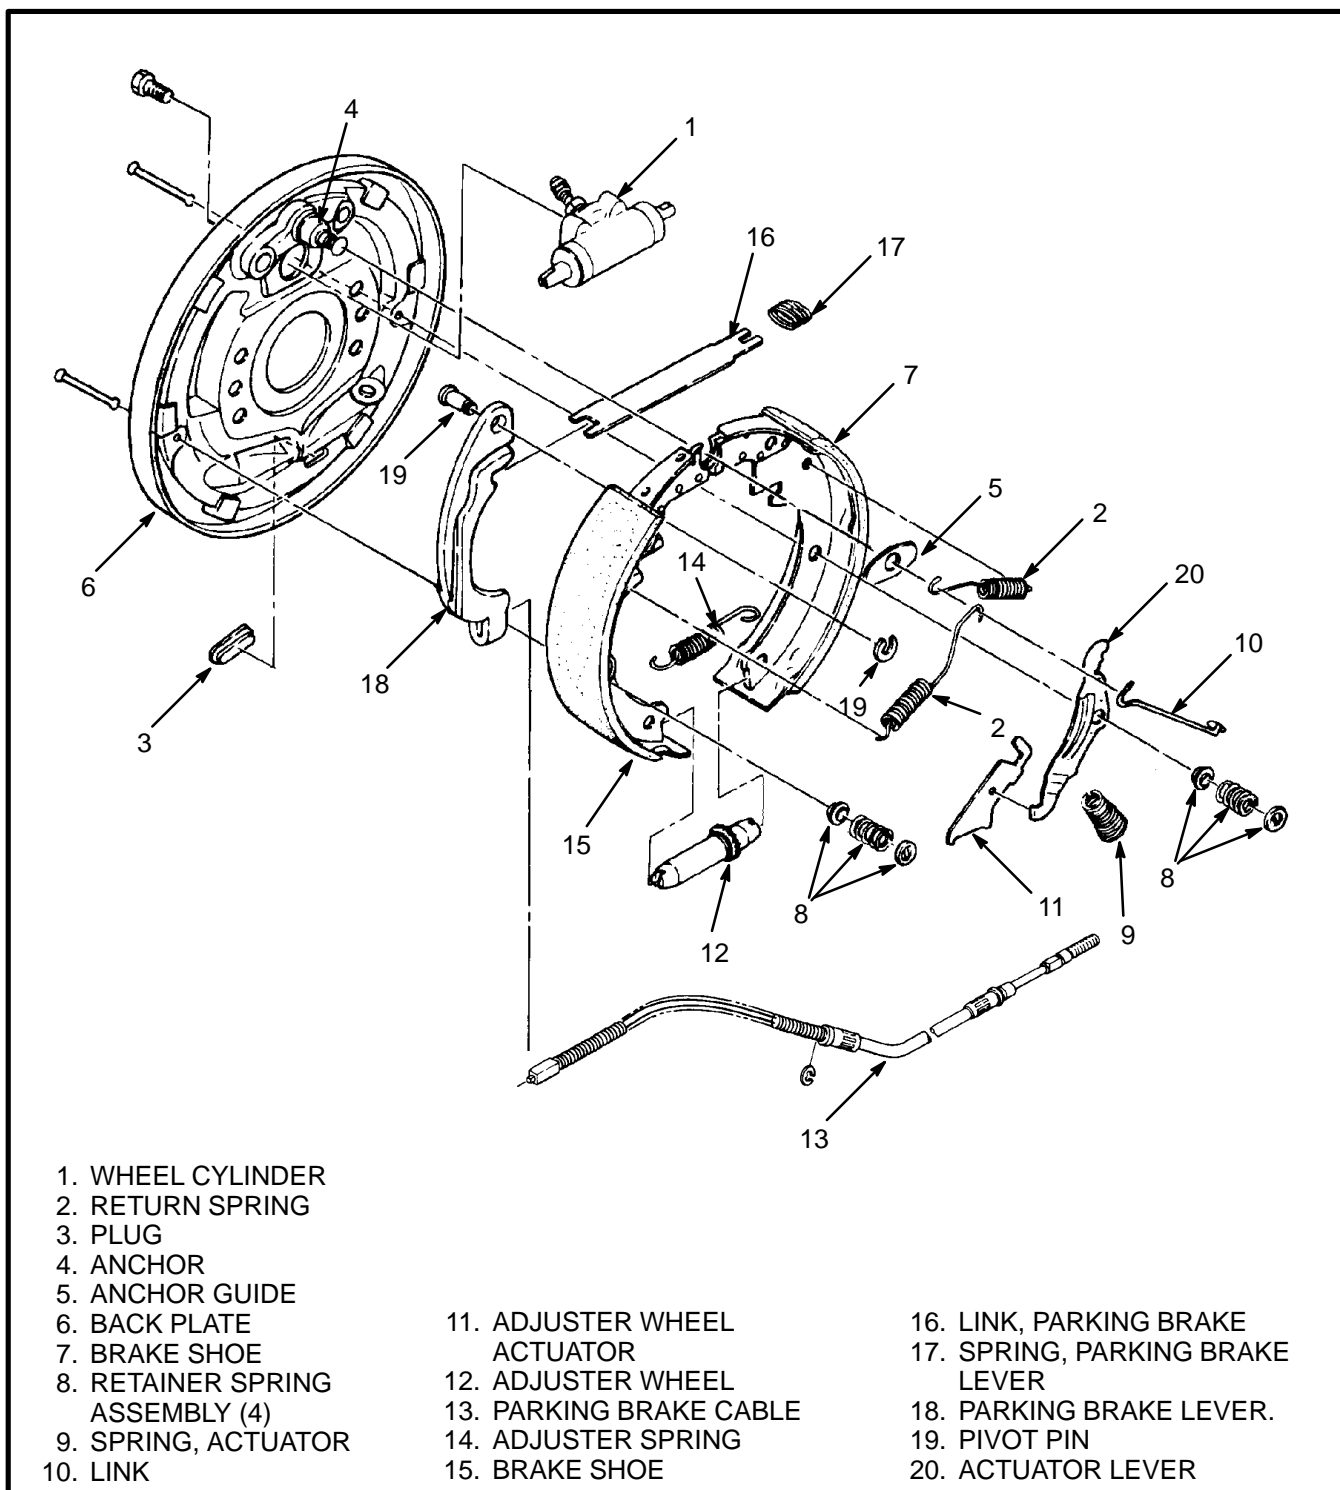
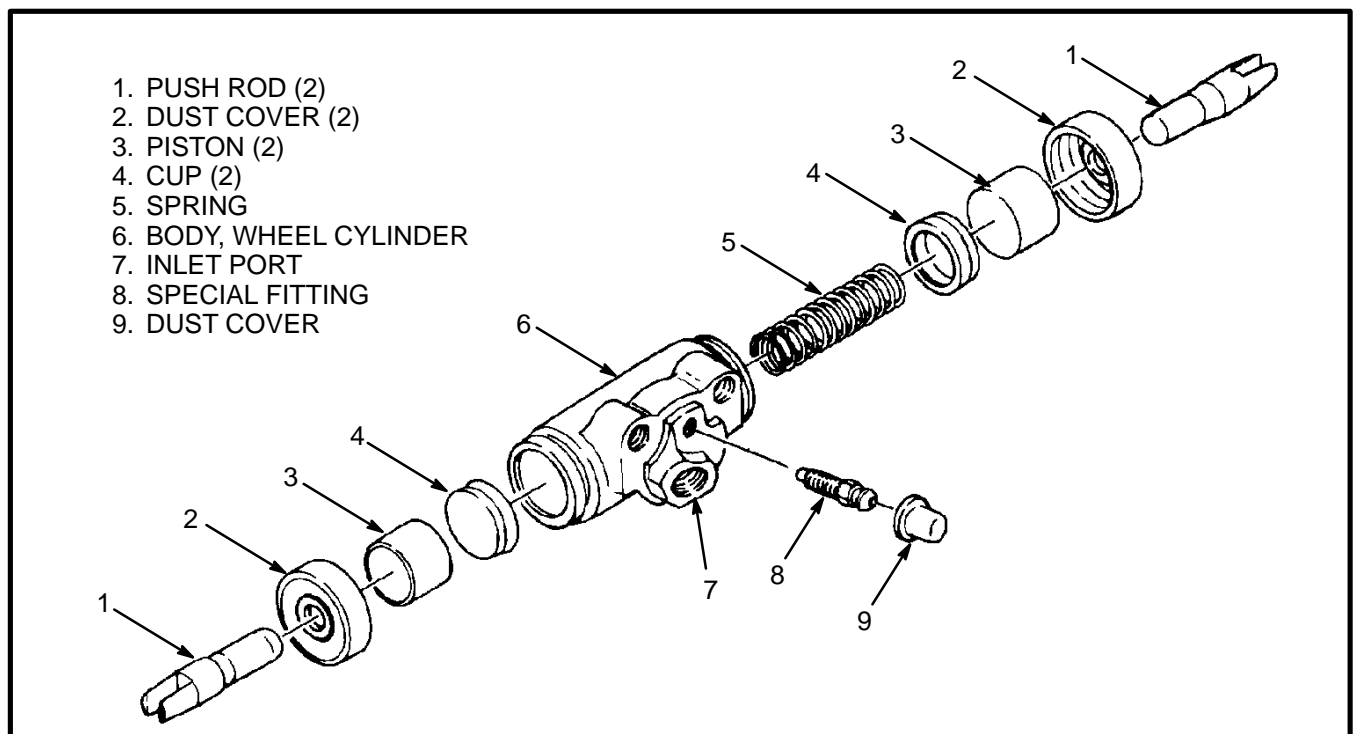

FIGURE 3. PARTS OF THE SERVICE BRAKE
FIGURE 4. WHEEL CYLINDER
A service brake assembly is installed at each end of the drive axle. The parts of the brake assembly are shown in FIGURE 2. and FIGURE 3. When the brake pedal is pushed, fluid pressure from the master cylinder causes the pistons in the wheel cylinder to move out. The pistons cause the brake shoes to expand against the drum.
5. Make a note of the arrangement of the parts. See FIGURE 2. and FIGURE 3. Remove the return springs (2) with spring pliers.
6. Remove the retainers, springs, and anchor pins (8) that hold the brake shoes to the back plate.
7. Disengage the link (10) from the actuator (20) for the adjuster wheel. Remove the link (10). Remove the anchor guide (5).
8. Move the brake shoes away from each other to disengage the brake shoes from the wheel cylinder. Disconnect the parking brake lever (18) from the parking brake cable (13) as the brake assembly is removed from the back plate. The parking brake lever has a hook that engages the parking brake cable.
11. Use a screwdriver or small prybar to separate the ends of the retainer (19). Remove the pivot pin (19) to remove the parking brake lever (18) from the brake shoe (15).
12. Disconnect the brake line from the wheel cylinder (1). Remove the capscrews that hold the wheel cylinder to the back plate and remove the wheel cylinder.
13. See FIGURE 4. Remove the push rods, dust covers, pistons, cups, and spring from the wheel cylinder.
1. If the wheel cylinder was disassembled for repair, assemble the wheel cylinder. See FIGURE 4. Use only HYSTER APPROVED parts.
3. See FIGURE 3. Install the parking brake lever (18). Use the pivot pin and retainer (19) to fasten the parking brake lever to the brake shoe (15). Close the ends of the retainer to fasten the pivot pin in position. Lubricate the back plate with a small amount of grease where the brake shoe touches the backing plate. Engage the parking brake cable (13) in the slot in the parking brake lever as the brake shoes are installed on the back plate. Mount the brake shoe assembly to the backing plate using the retainer spring assemblies (8). Put an anchor pin that holds the brake shoes through the back plate. Put a spring seat, spring and retainer (8) onto the anchor pin. Push the retainer onto the anchor pin and rotate the retainer 90 degrees. Make sure the retainer is in the correct position. Install another retainer spring assembly. Be certain that the brake shoe engages the push rod ([1] FIGURE 4.).
4. Attach the actuator (11) for the adjuster wheel to the actuator lever (20). Lubricate the back plate with a small amount of grease where the brake shoe touches the back plate. Mount the brake shoe and actuator assembly to the backing plate using the retainer spring assemblies (8). Put an anchor pin that holds the brake shoes through the back plate. Put a spring seat, spring and retainer (8) onto the anchor pin. Push the retainer on to the anchor pin and rotate the retainer 90 degrees. Make sure the retainer is in the correct position. Install another retainer spring assembly. Be sure that the brake shoe engages the push rod ([item 1] FIGURE 4.).
5. Fasten the adjuster actuator spring (14) to the adjuster wheel actuator (11) and the brake shoe (15).
7. Install the adjuster wheel (12) between the two brake shoes. Make sure the adjuster wheel will be toward the rear of the lift truck. Separate brake shoes so that the adjuster wheel is held in position and the adjuster actuator spring is in tension.